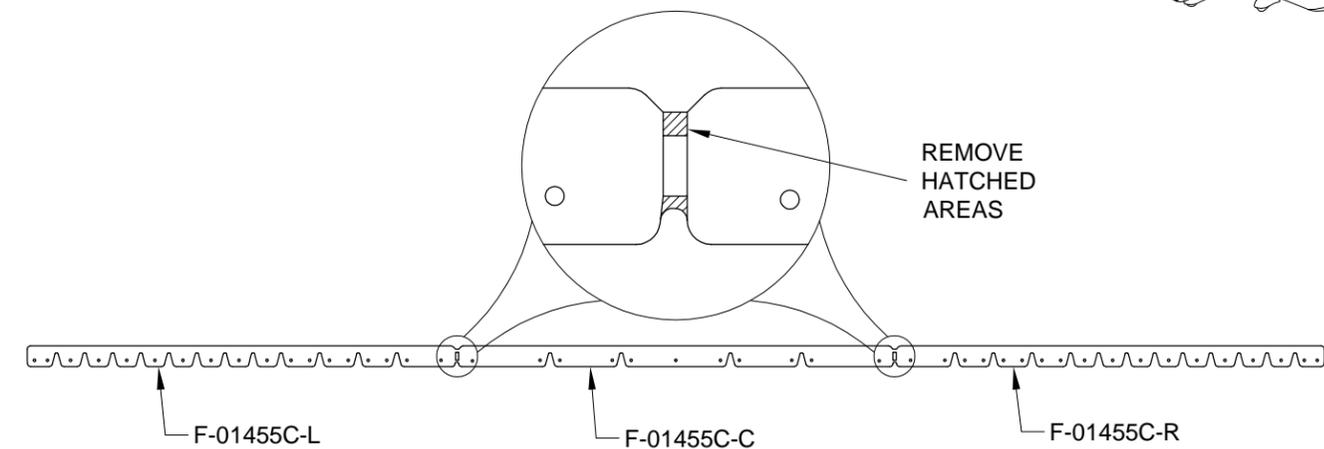

FIGURE 2: SEPARATE SEAL ANGLES (SHOWN FLAT)
Step 4: Separate and deburr the F-01455C Seal Angles as shown in Figure 2.